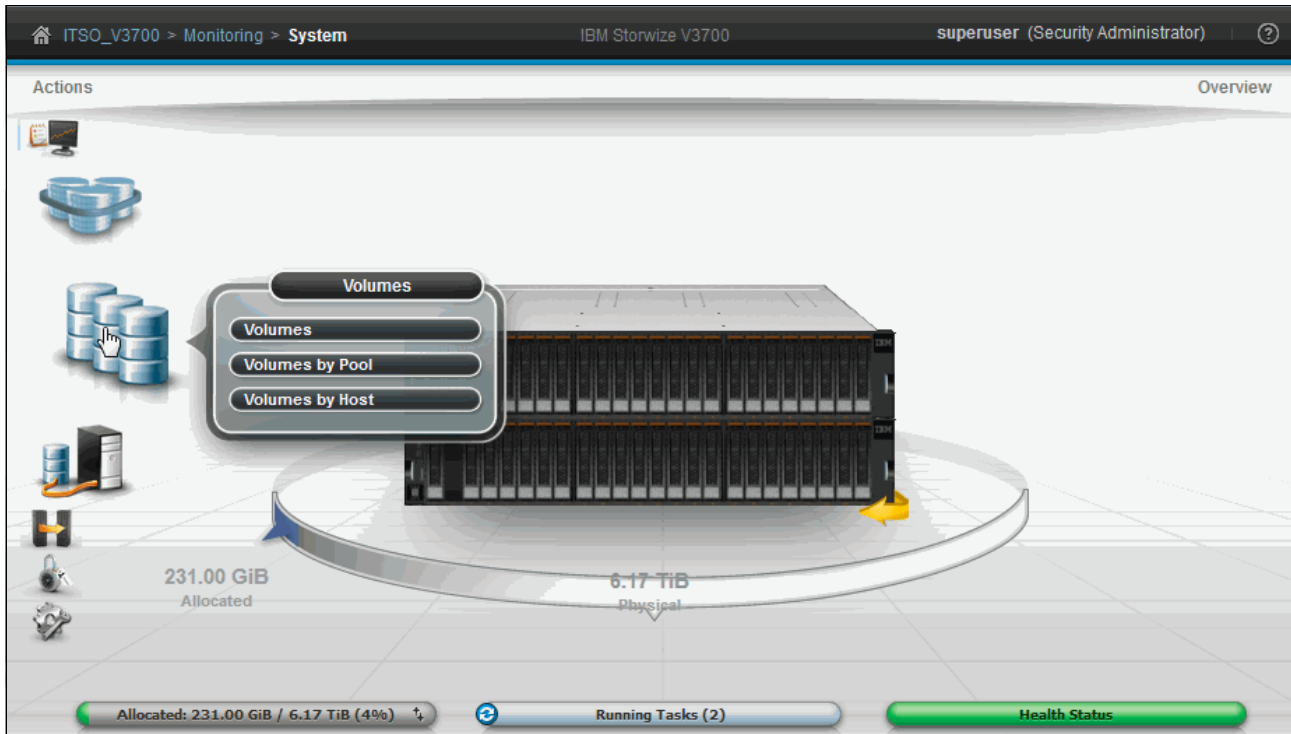
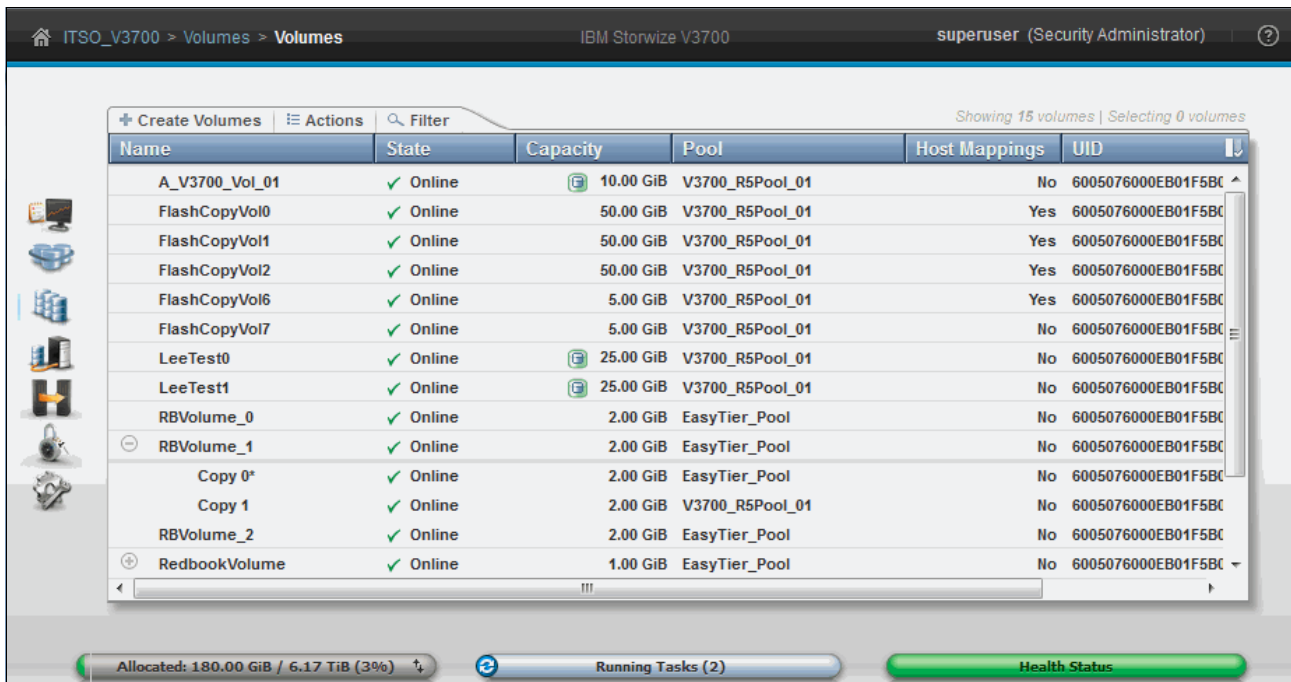

Figure 8-39 Volumes menu
Figure 8-40 Volume pane
Figure 8-39 on page 385 shows the following options that are available in the Volumes menu for advanced features administration:
1. Click **Volumes** (as shown in Figure 8-39) and the Volumes pane opens, as shown in Figure 8-40.
- Name** Shows the name of the volume. If there is a plus sign (+) next to the name, this sign means that there are two copies of this volume. Click the plus sign (+) to expand the view and list the copies, as shown in Figure 8-40 on page 385.